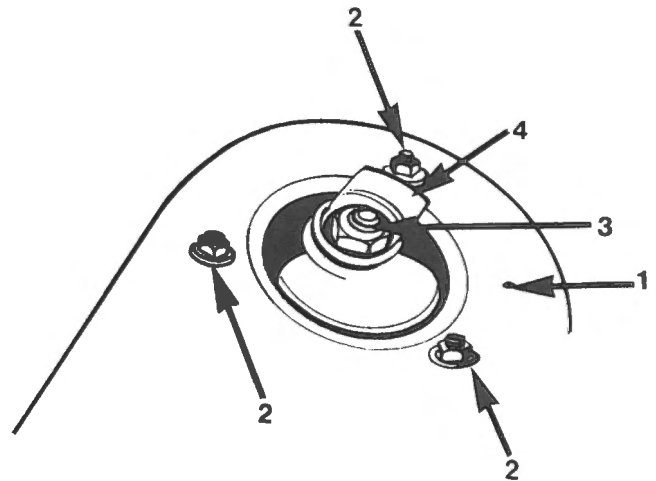

Fig. P-3
- 7 Remove the three nuts and washers securing the strut unit to the front guard valance and remove the strut unit. Fig. P-3.